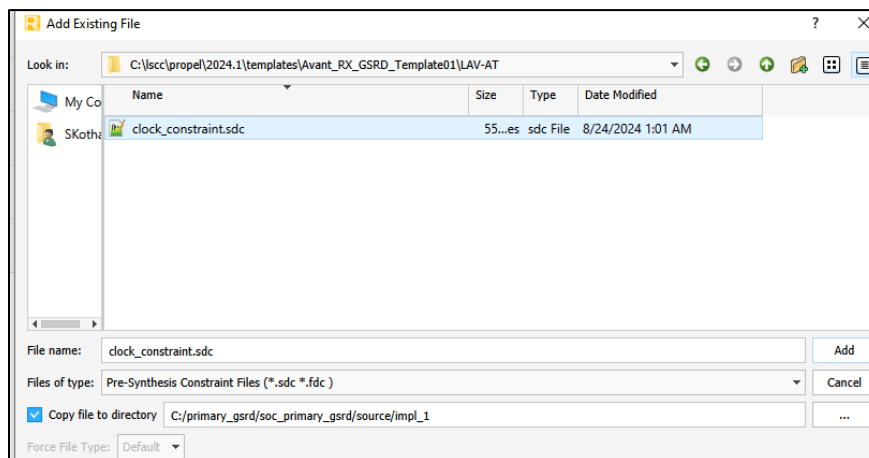

Figure 8.50. Select clock_constraint.sdc File
6. Select the clock_constraint.sdc and Ensure that the Copy File to Directory is enabled as shown in Figure 8.50. Click **Add**.